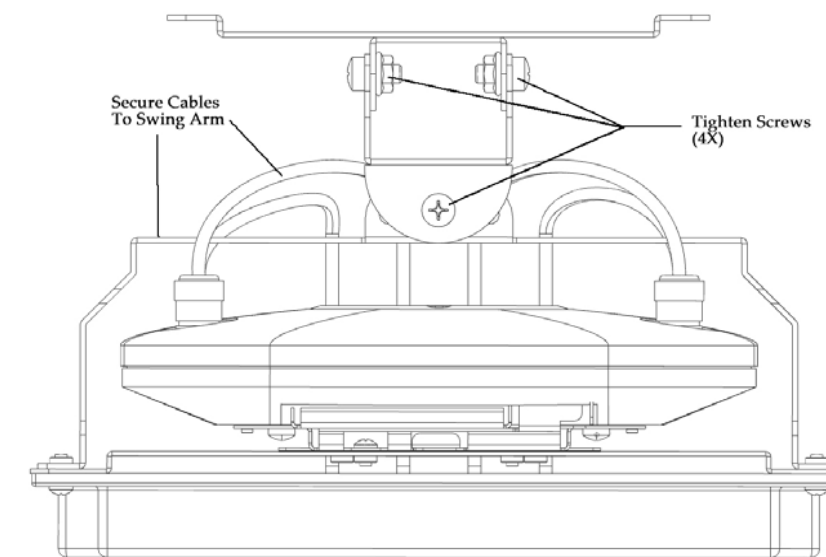

Figure 6
**Step 6** – Use the provided wire ties to secure antenna cables to the swing arm. Tighten the screws snugly in the four locations shown in Figure 6. This will allow the mount to swivel with out it freely moving around.
**Step 9** – Articulate the antenna mount to the desired position and securely tighten down the screws in Figure 6 to keep the mount in the set position. The mount can be swiveled on two axes to provide the desired down-tilt and azimuth coverage of the directive antenna.